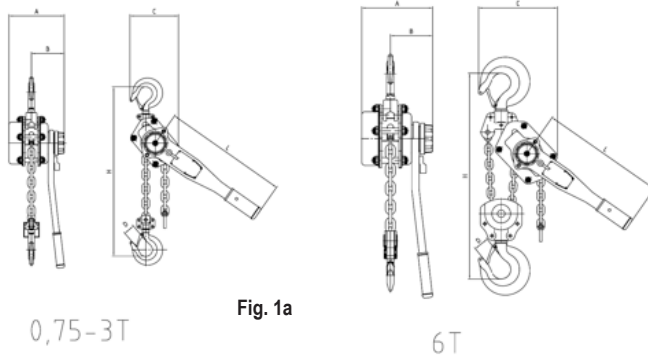

Fig. 1a
-  The lifting chain is equipped with a low limit stop (Fig. 1a-1b). It is prohibited to fasten a load to the low load limit stop.